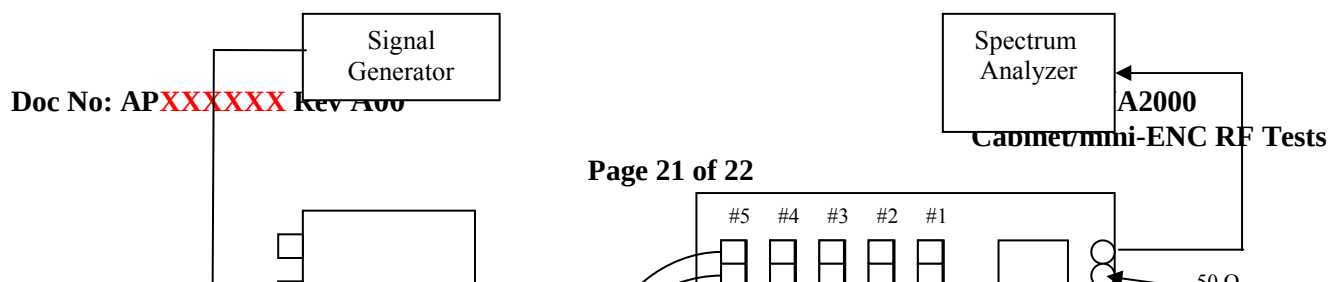

Figure 12.1 DL Power Detector Setup
12.2. Connect Spectrum Analyzer to the relevant Cabinet Antenna port, BU to the relevant RHU in the cabinet and Signal Generator to the DL port in the BU, as shown at Figure 12.1.